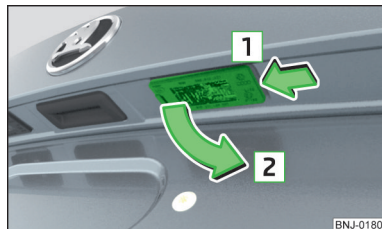

Fig. 216
- Push in the light in the direction of arrow **1** » Fig. 216 until it is detached.